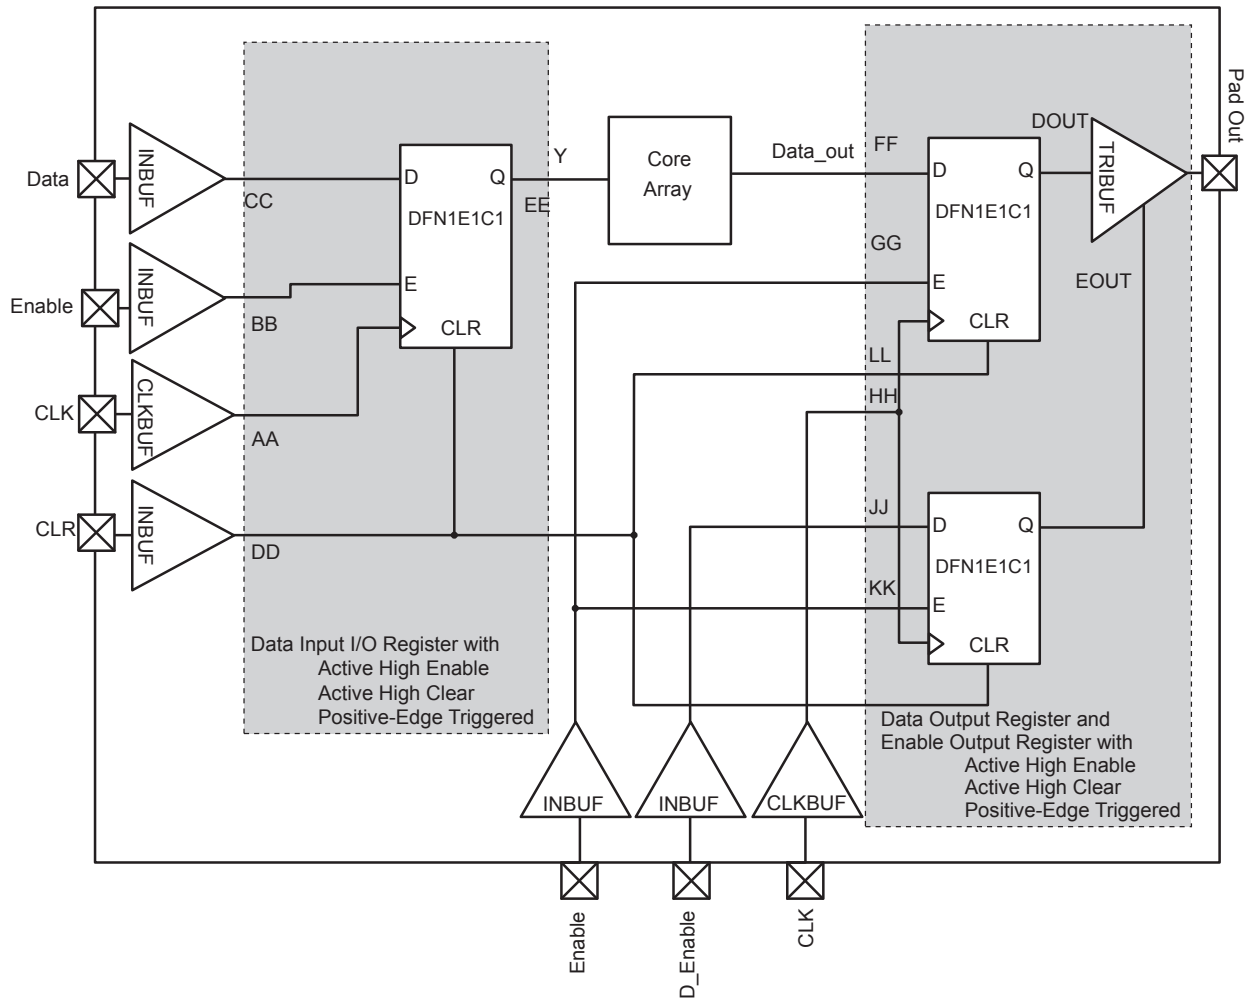

Figure 2-16 • Timing Model of the Registered I/O Buffers with Synchronous Enable and Asynchronous Clear
**Note:** \*See Figure 2-16 on page 2-71 for more information.